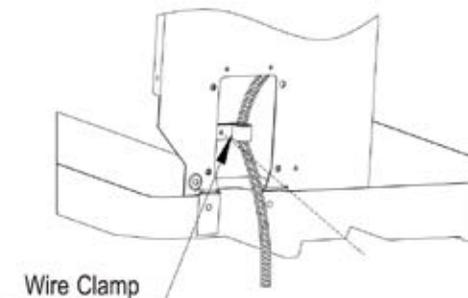

Fig. 9
3. Use wire clamp to attach hard wire kit to Junction box. See Fig. 9.